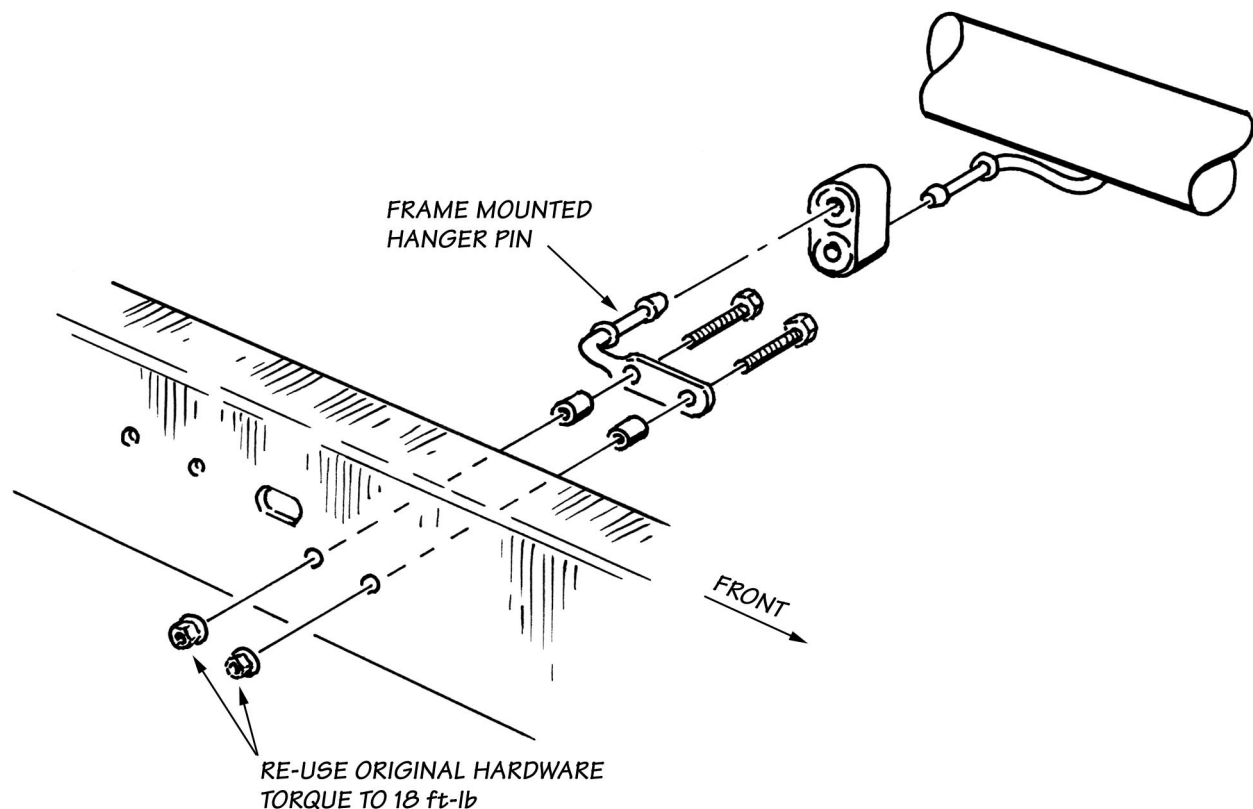

Figure A-1. Relocation of Frame Mount Hanger Pin.
Step 23.1 Remove the two (2) nuts that hold the frame mounted hanger pin to the frame rail, save for reinstallation later. Remove the frame mounted hanger pin from vehicle.
Step 23.2 Remove the two (2) 8mm studs from the frame mount hanger pin. Note: Studs are pressed into hanger pin and will require the use of a hammer or small press to remove.
Step 23.3 Re-install the frame mounted hanger pin using the two (2) $\frac{5}{8}$ " long steel spacers, two (2) 8mmx1.25x45mm bolts and the two (2) 8mm nuts (removed in Step 23.1 above). See Figure A-1 for proper assembly sequence. Torque fasteners to 18 ft-lb.